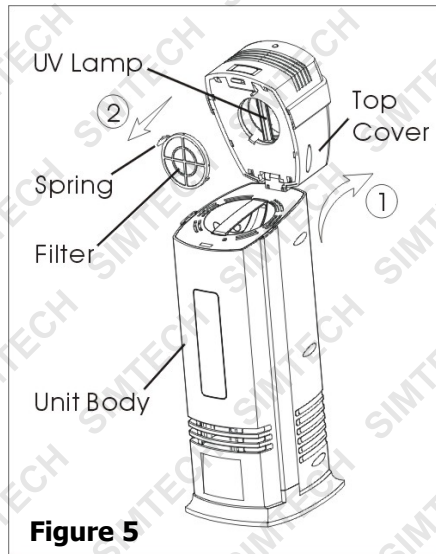

Figure 5
REMOVING/CLEANING/INSTALLING THE FILTER (See Figure 5)
2. Press the release button and flip the top cover backward; (See Figure 5 and consult the indication of arrow ①)
3. Take out the filter from top cover by pressing and gripping the spring on the filter cover. (See Figure 5 and consult the indication of arrow ②)
CLEANING THE UV LAMP (See Figure 5)
3. Take out the filter from top cover by pressing and gripping the spring on the filter cover; (See Figure 5 and consult the indication of arrow ②)